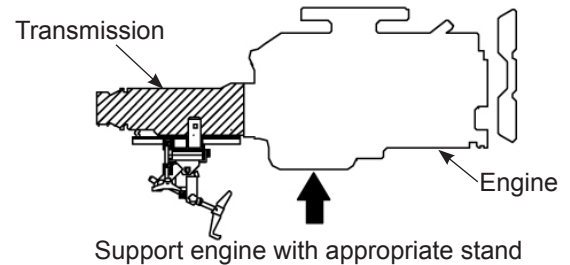

**Figure 1**
6. Push in the 4 ratchet brackets on head assembly firmly to contact sides of transmission (see Figure 1).